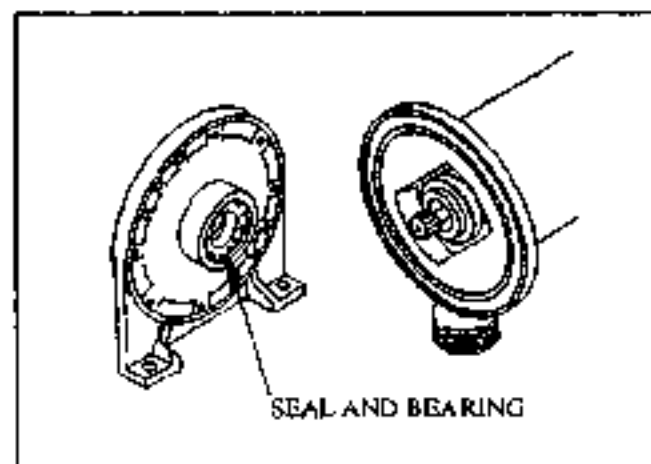

Figure 30
- B. Repeat Step 1 for main drive mount. See Figure 30.